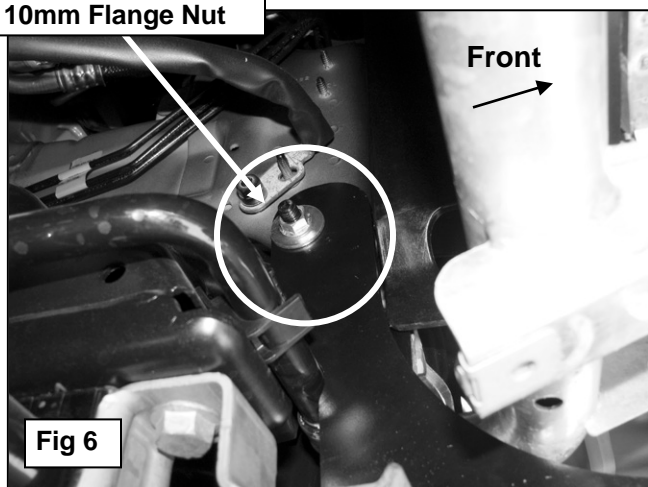

Fig 6
2. Locate the factory hole in the inner frame channel, **(Figures 3A & 3B)**. Select the driver side Frame Mounting Bracket, **(Figure 10)**, and (1) 10mm Bolt Plate, **(Figure 4)**. Insert the Bolt Plate into the factory hole in the inner frame channel from the outside in, **(Figure 5)**. Hang the Frame Mounting Bracket from the Bolt Plate. Secure the Bracket to the Bolt Plate with (1) 10mm Flat Washer and (1) 10mm Flange Nut, **(Figure 6)**. Leave hardware loose at this time.